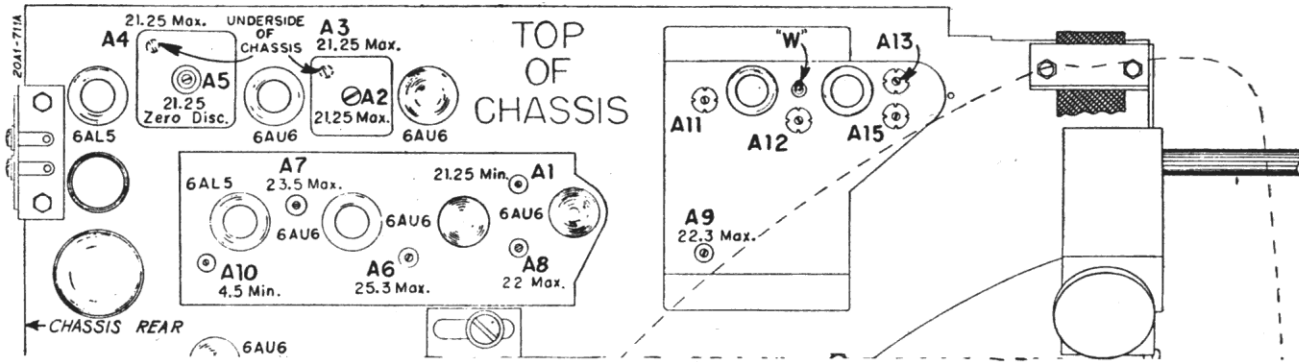

Figure 27. Alignment Locations and Frequencies, with late production Video IF strip.
†Locations of A1, A6, and A8 were different in early production sets. See figures 27, 28.
- Refer to figures 27, 28 and 29 for alignment adjustment and test point locations.
** See figures 27 and 28 for alternate locations.
- Connect oscilloscope through 10,000 ohm resistor to point "W" (figure 27). Keep oscilloscope leads away from chassis.